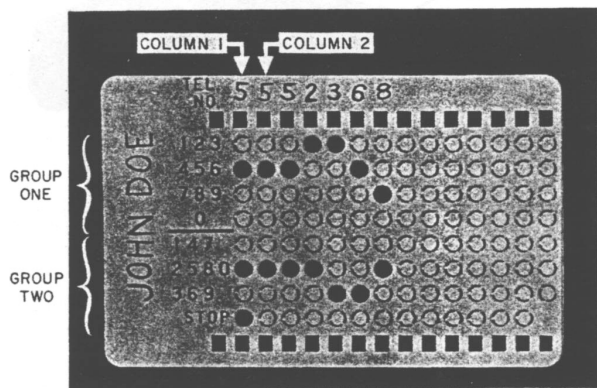

Fig. 5 — Card Coded for 7-Digit Telephone Number
- (1) Prepare dialing card
- (2) Write name and telephone number in spaces as shown in Fig. 5 and 6
Note: There are two groups of number 1 through 0 on the card (Fig. 5).
- (4) In Fig. 5 the first digit of the telephone number is 5. In column 1, locate digit 5 in the first group of numbers and punch out the perforation with a pencil or ballpoint pen. In the same column, locate digit 5 in the second group of numbers and again punch out the perforation.